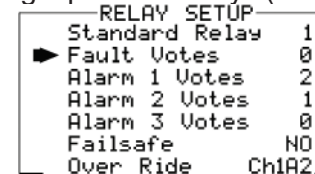

Figure 2-8. Relay Setup Menu
The menu shown in Figure 2-8 allows configuring of both the standard Relay 1 & Relay 2 motherboard relays and the six optional relays on the 10-0222 discrete relay option PCB. Both standard and optional relays are programmed in this menu. Select the relay to be configured by pointing the arrow at the top menu item and pressing Edit. The field will scroll through all eight possible relays (2 standard and 6 optional).
- Fault, Alarm 1, Alarm 2, Alarm 3** menus (Figure 2-8) offer additional “voting” flexibility by controlling the channel alarm combinations that will trip the selected relay. Each **Votes** entry requires the specified quantity of that alarm to be active before this relay activates. As illustrated in Figure 2-24 Standard Relay 1 activates when any 2 channels have Alarm 1 conditions, PLUS, any one channel has an Alarm 2 condition. Fault Votes and Alarm 3 Votes values are 0 therefore Fault and Alarm 3 conditions will not affect this relay.